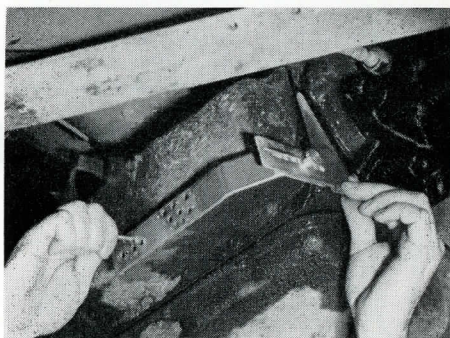

Figure 23
1. Clean machined surface at back of transmission case and place throttle lever checking gauge (AT-53A) flat against the surface with edge of gauge against transmission side cover. Care should be taken that edge of gauge is squarely aligned with transmission side cover. Fig. 23.
2. Adjust throttle lever gauge with its adjusting screw to correct position as indicated on the side of the tool that the pin holes are located. This will give the correct location of the sliding gauge for particular make and model cars. (The circled letter which accompanies year and make car indicates the position of the slide on the tool.) Fig. 23.